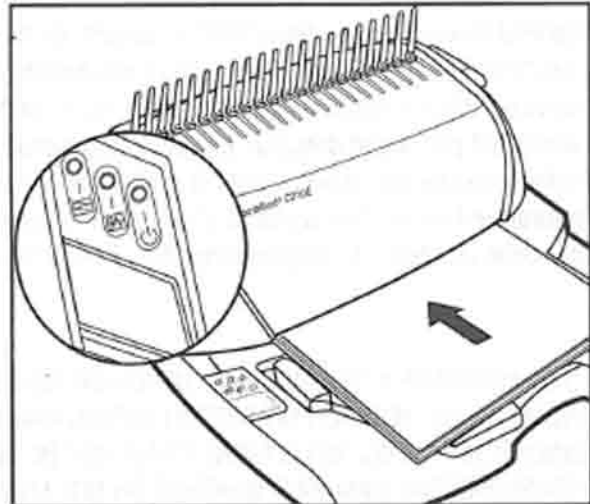

Figure 2
1. Insert the document or cover to be punched into the punch opening. (see Figure 2)